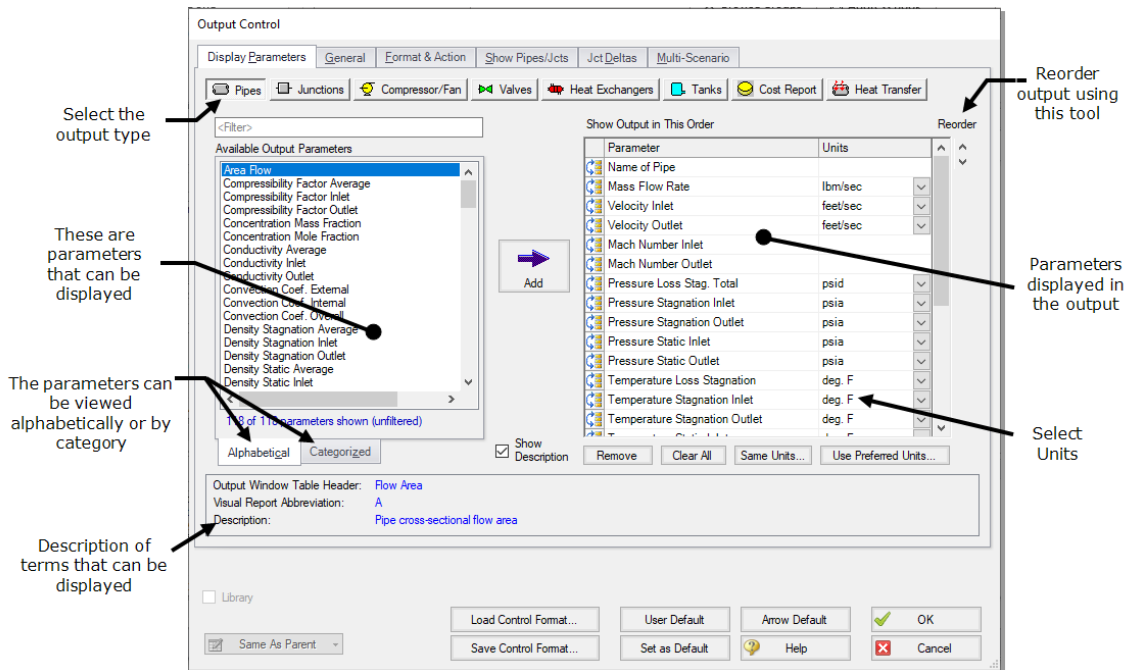

Figure 2.16 The Output Control window lets you customize the output
The Output Control window (Figure 2.16) allows you to select the specific output parameters you want in your output. You can also choose the units for the output. If you do not change any of the Output Control settings, default Output Control parameters and a default title are assigned.
- **Select Output Control** from the Tools menu or the Main Toolbar to open the Output Control window (Figure 2.16). On the Display Parameters tab, select the Pipes button. The list of selected pipe output parameters will be displayed on the right hand side. By default, the pipe results in the Pipes table will show mass flow rate in the second column with units of lbm/sec. Change the units for Mass Flow Rate by selecting kg/hr (kilograms per hour) from the unit list shown beside the parameter.
to change the parameter order (see Figure 2.16).